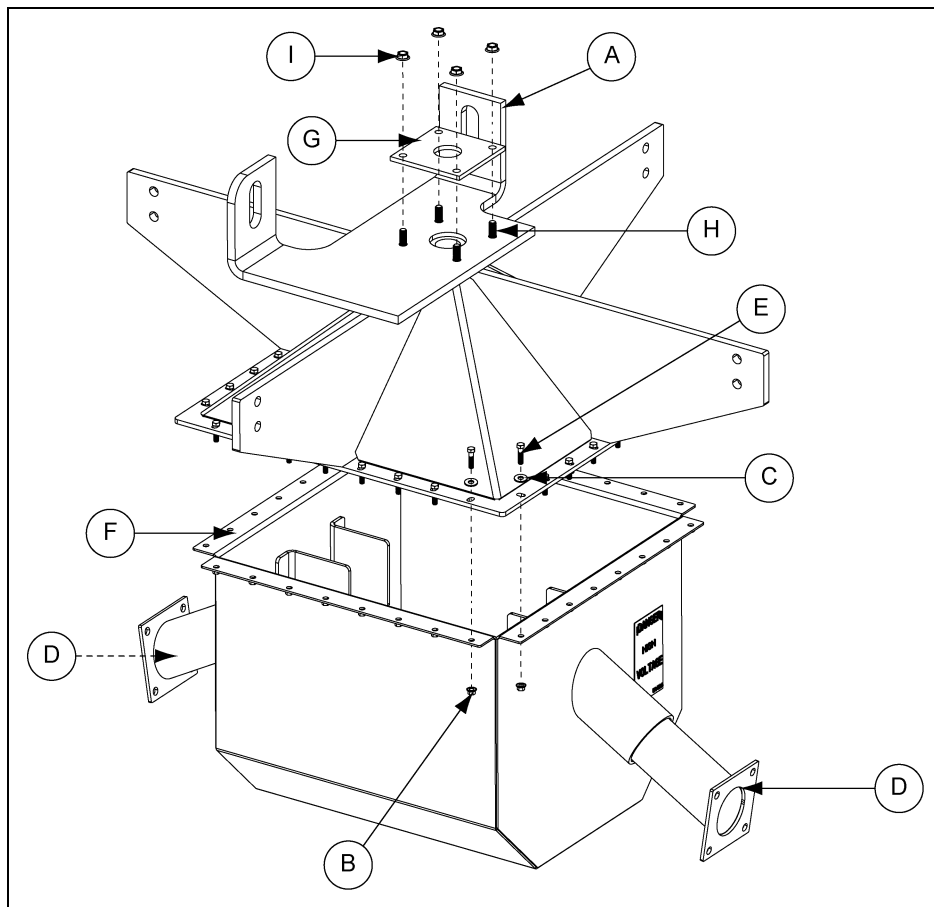

Figure 5A
2. Temporarily install the collector ring shield (F) to the bottom of the cross brace (A) using eight (8) hex bolts (E), eight (8) flat washers (C) and eight (8) hex nuts (B). (See Figure 5A.)